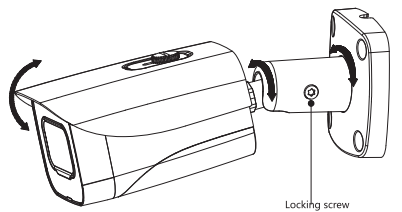
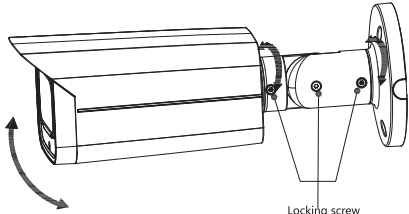

Figure 3-3
Figure 3-4
- Step 1** Find the mounting template sticker from the accessory pack and stick it to the mounting surface ⑤. Drill screw holes (and the cable outlet hole if it needs to go through the mounting surface) on the mounting surface as indicated on the mounting template.
- For masonry mounting surface, insert expansion bolts ④ from the accessory pack in the screw holes.
- Step 3** Adjust the location of the bracket ③ according to cable outlet requirement (top out or side out), then pull the cable out through mounting surface or the side wire tray. Align the screw holes on the bracket ③ to those on the mounting surface, then put in and fasten the supplied self-tapping screws ② to attach the device ① to the mounting surface.
- Step 5** Loosen the locking screw first, aim the lens to the ideal angle and adjust the focus until you get clear image (see Figure 3-3 or Figure 3-4), and then fasten the locking screw.